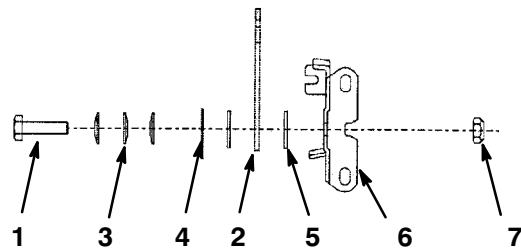

Figure 57
3. Tighten nut and bolt. Test lever and adjust tension to your desire (Fig. 57).